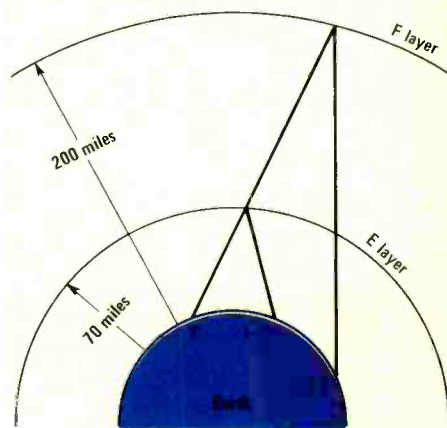

Figure 2 Showing radio wave reflection off of both E and F layers. Distance at r-2 will be twice that at r-1.
*Figure 2* shows the layers concerned with long distance propagation. The *E* layer is about 70 miles above the Earth. The *F* layer is actually two layers, the *F-1* layer at about 140 miles and the *F-2* layer at around 200 miles. At night the two *F* layers recombine into a single layer about 175 miles high. Not shown is a *D* layer, which exists only around the noon